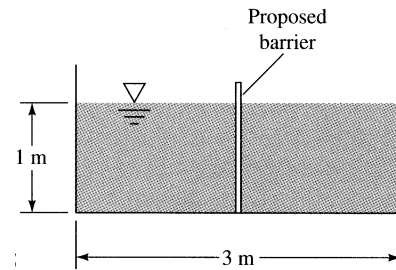

Fig. P10.15
**10.15** The finished-concrete channel of Fig. P10.15 is designed for a flow rate of  $6 \text{ m}^3/\text{s}$  at a normal depth of 1 m. Determine (a) the design slope of the channel and (b) the percentage of reduction in flow if the surface is asphalt.
**10.16** In Prob. 10.15, for finished concrete, determine the percentage reduction in flow if the channel is divided in the center by the proposed barrier in Fig. P10.15 above. How does your estimate change if all surfaces are clay tile?